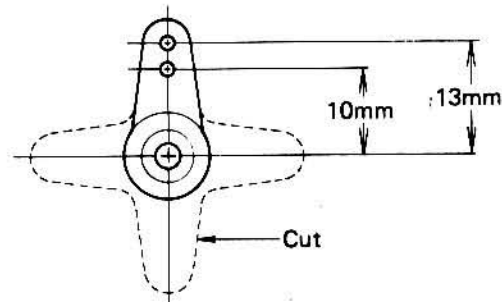

Fig. 23
- 47** Connect servos, gyro, and battery to the receiver referring to the instruction book of your R/C equipment, and check the moving directions of each servo. Attach servo horns which has holes 10~13mm from its center, to each servo. At this time make sure that all servo horns are at neutral, when all transmitter sticks and trims are neutral. (Read servo's instruction book.) Remove the unnecessary horns to avoid hitting other horns. See fig. 23.